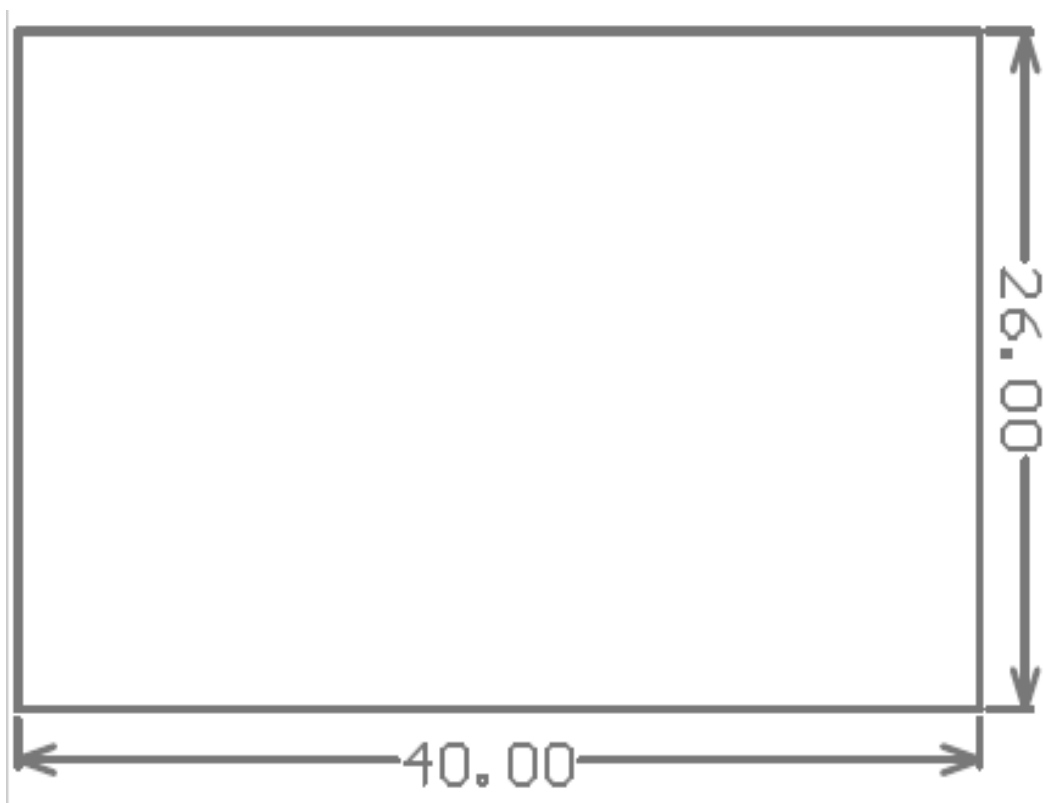

Figure 2: Board Dimensions
| Figure 2: Board Dimensions | 5 |
- For more details on dimension of the board shown in figure 2.